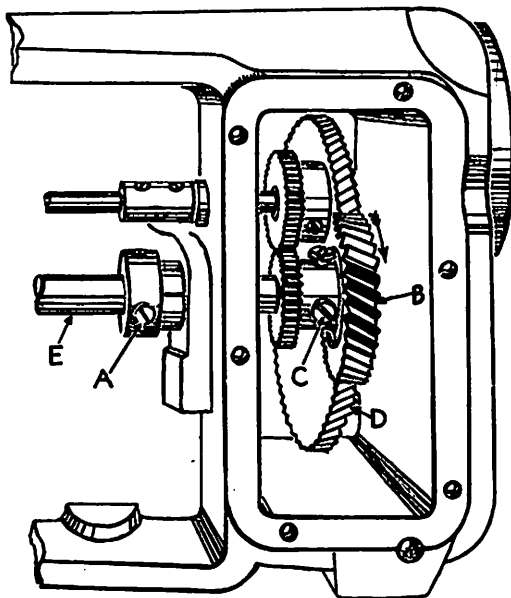
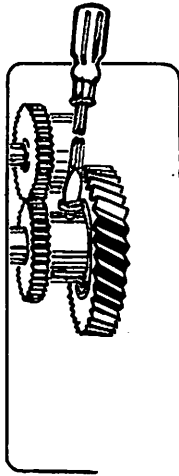

Fig. 21
Fig. 22
1. Check to see if the fillister head screw in the feed driving shaft collar (A, Fig. 21) bears against the flat on shaft (E).
3. Check position of feed driving gear (B) on the shaft. When the handwheel is turned in the operating direction and the feed driving gear is rotating in the direction indicated by the arrow (Fig. 21), the first screw coming into view is the time screw (C) and should bear against the flat on the shaft. The flat for the time screw is in line with the flat for the feed driving shaft collar set screw.
4. Loosen the screws in the feed driving gear and disengage the gear from the intermediate gear (D) by sliding it to the right.
6. Turn the feed driving shaft (E) with the fingers until the timing marks on the collar and the bushing coincide.
7. Re-engage driving gear temporarily with the time screw up as high as possible and still remain accessible to a screw driver (Fig. 22). Tighten screw only enough to maintain adjustments.
8. Turn handwheel in operating direction until fillister head screw (A, Fig. 21) in the feed driving shaft collar is in line with the timing mark on the bushing.